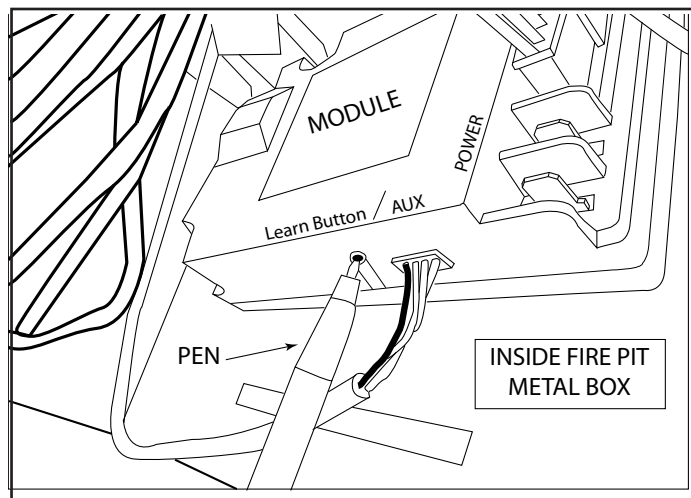

Fig. 26 Learn button location
3. Once the Learn button is located, press and release the button once. You will hear a beep indicating that the module is ready to receive a transmitter code (See Fig. 26)